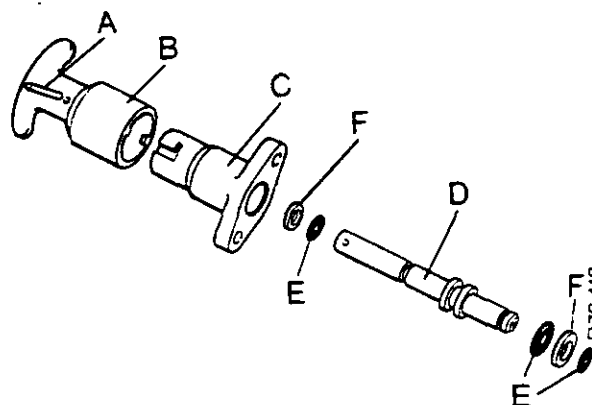

FIGURE 91. DUMP VALVE FOR 14 SERIES TRACTORS
1. Remove the pin 'A' and knob 'B' from the plunger (see Figure 91). From the knob end, push the spindle out of the valve body.